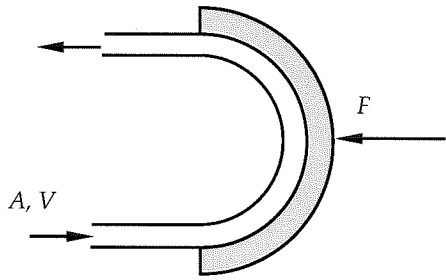

FIGURE P2.36.
36. A two-dimensional, liquid jet strikes a concave semicircular object, as shown in Figure P2.36. Calculate the restraining force  $F$ .